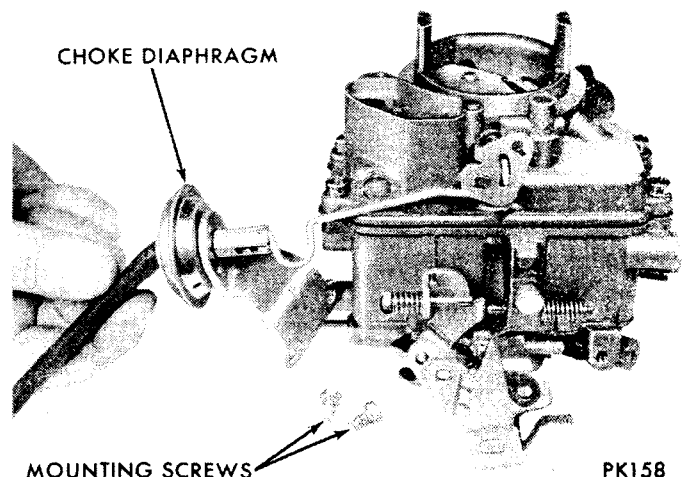

Fig. 9—Removing or Installing Choke Diaphragm
(3) Remove choke vacuum diaphragm, link and bracket assembly. Disengage link from slot in choke lever; place diaphragms to one side to be cleaned as special items (Fig. 9).
(11) Install choke vacuum diaphragm (Fig. 9).
(12) Install dashpot if so equipped.